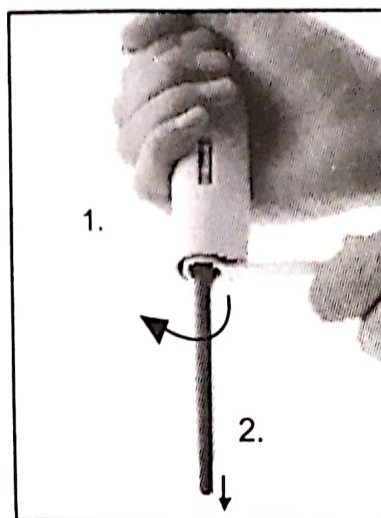
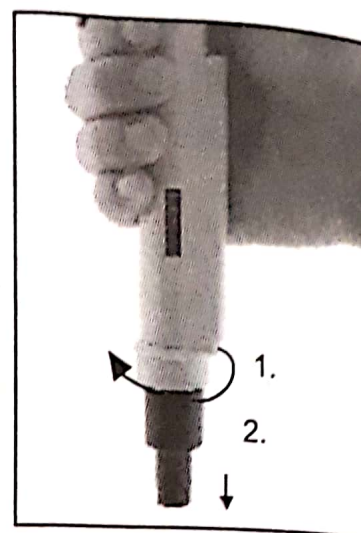

Fig. 9
Fig. 10
4. Place the wrench end of the opening tool over the tip cone, turning it anticlockwise. Do not use any other tools (Fig. 9). The 5 ml tip cone is removed by turning it anticlockwise. Do not use any tools (Fig. 10).